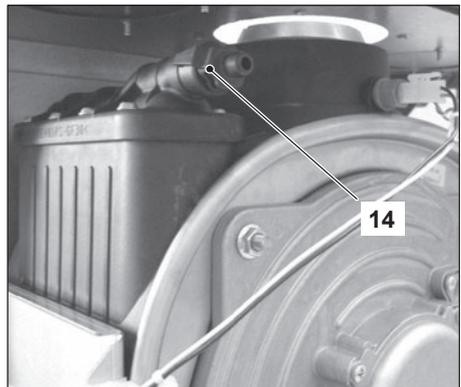

Fig. 7.2
- Unscrew the condensing heat exchanger air purger valve 14 (Fig. 7.2).
- Close the condensing heat exchanger air purger valve 14 (Fig. 7.2) when water begins to flow out.